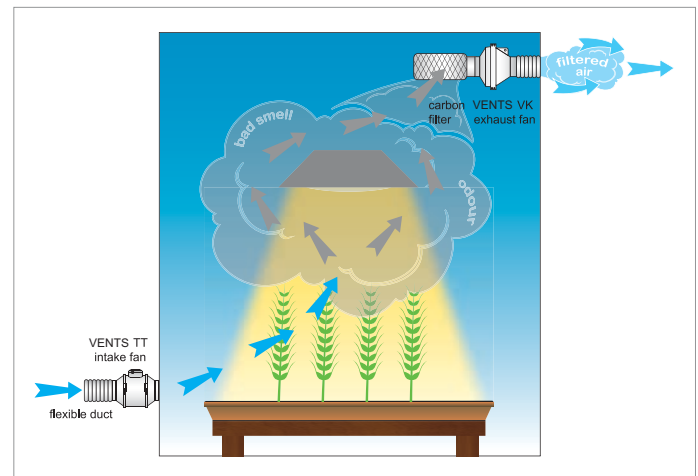

Fig. 14. Carbon filter absorbs any kind of bad odour caused by plants and some crops types. Extracted air stay filtered and odourless.
2. Certain types of crop can cause bad odour. A professional carbon filter attached to the exhaust fan will help you to achieve 90-95% odour removal, meaning that just about any crop can be grown without comment. However, it's important to match the correct filter to your fan (Fig.14); odours have a measurable "dwell" time that needs to be met before they are completely absorbed. Therefore, a 750 m³ capacity exhaust fan will need a 750 m³ carbon filter. Don't try to use a lower capacity filter, it won't work!